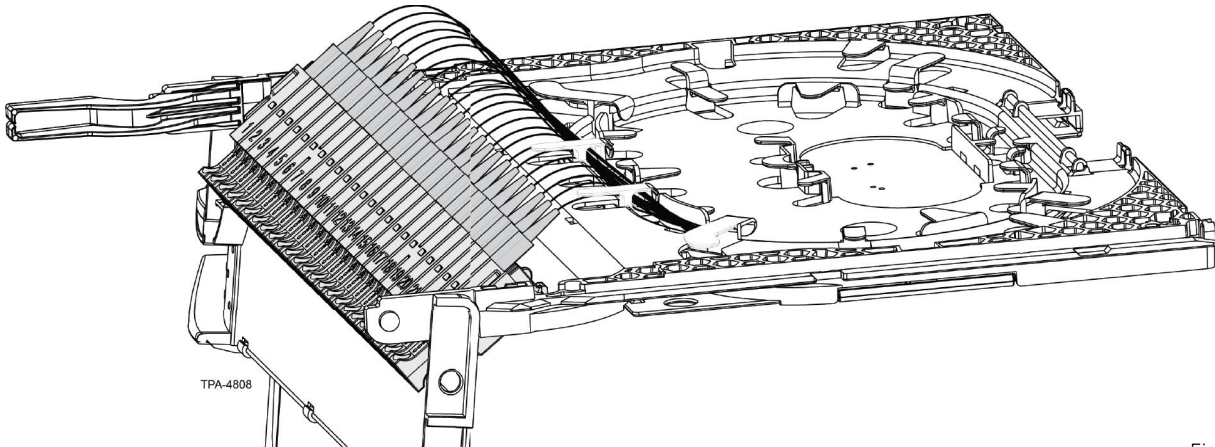

Figure 67
Step 4: Press down on the front of the adapter panel to tilt the panel down (Figure 67), allowing better access to the pigtail connectors in the rear of the adapter panel.